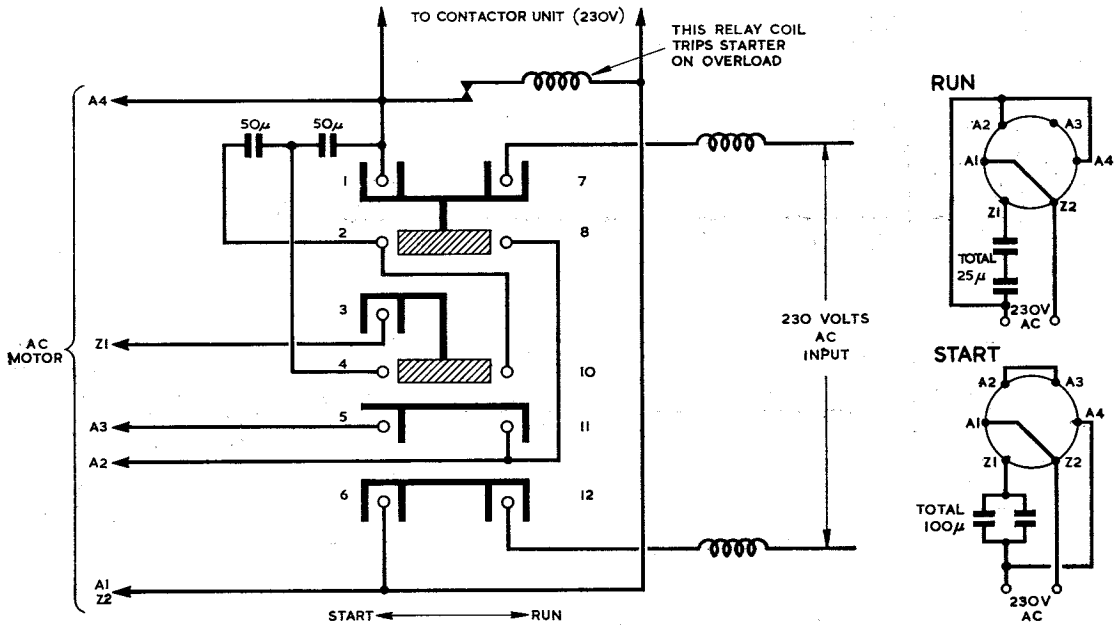

Fig. 25. Starter Type I3 : circuit
71. As shown in fig. 25, when the starting handle is pushed down, 230 volts are applied across Z1, Z2 via a 100 μF capacity. When the starting handle is pulled up the voltage is applied to Z1, Z2 via a 25 μF capacity. Fig. 25 also shows the connections in START and RUN positions.